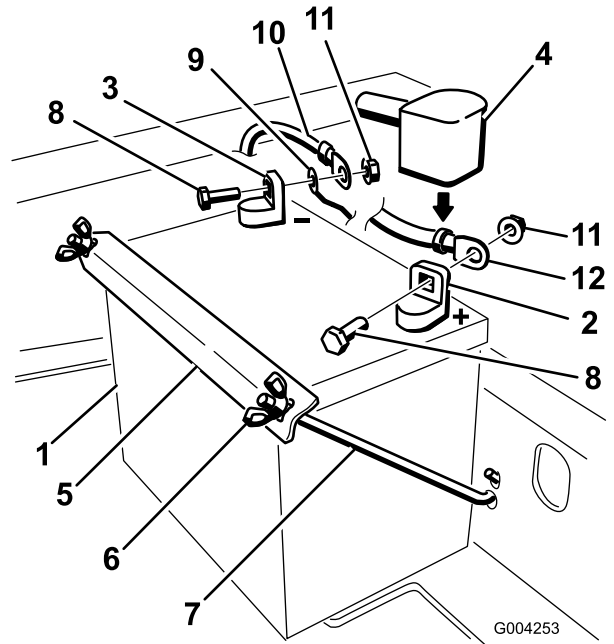

Figure 38
4. First disconnect the negative battery cable and ground wire from the negative (-) battery terminal (Figure 38).
5. Slide the red terminal boot off the positive (red) battery terminal. Then remove the positive (red) battery cable (Figure 38).
6. Remove both wing nuts (1/4 inch) securing the battery clamp (Figure 38).
1. Position battery in the tray with the terminal posts toward the engine (Figure 38).
4. Secure the cables with 2 bolts (1/4 x 3/4 inch), 2 washers (1/4 inch), and 2 locknuts (1/4 inch) (Figure 38).
6. Secure battery with J-bolts, hold down clamp and 2 washers (1/4 inch), and 2 wing nuts (1/4 inch) (Figure 38).